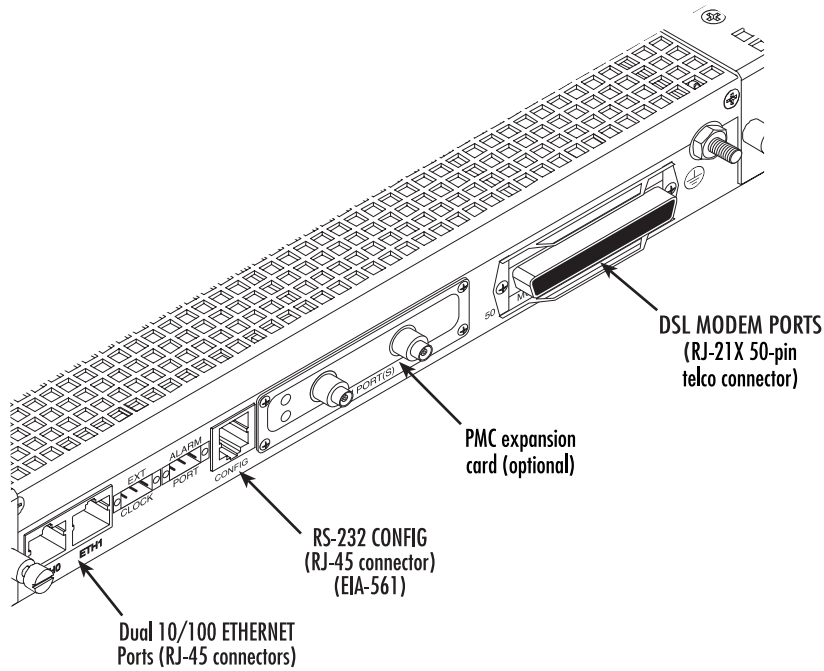

Figure 9. Model 3224 network and configuration ports
The IpDSLAM has two 10/100 Ethernet interfaces for connection to your LAN (see figure 9). The Ethernet port will autosense the correct speed of the local LAN and automatically negotiate half- or full-duplex operation. This section describes connecting the IpDSLAM to the Ethernet LAN via an Ethernet hub, switch, or workstation.
The 10/100Base-T Ethernet ports (see figure 9) are designed to connect to an Ethernet switch or hub. The Ethernet RJ-45 pin and signal definitions for the IpDSLAM or for a NIC card in a workstation/PC are shown in figure 10. Connect a straight-through CAT-5 cable (one wired as shown in figure 10) between the IpDSLAM and the hub/switch.
Install the supplied RJ-45-to-RJ-45 cable with the DB9-RJ45 adapter between the IpDSLAM RS-232 port (see figure 9 on page 25) and an open serial port on your computer. If you need to assemble your own cable, refer to the pinout diagram in figure 12.
1. If you have not done so already, install the supplied DB-9-to-RJ-45 cable between the IpDSLAM RS-232 port (see figure 9 on page 25) and an open serial port on your computer.